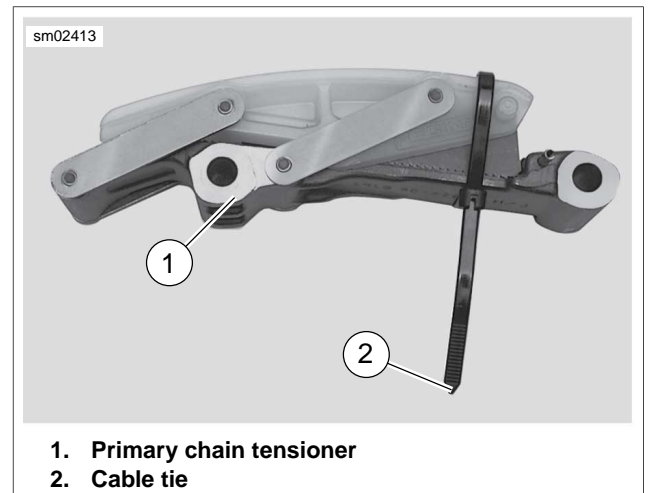
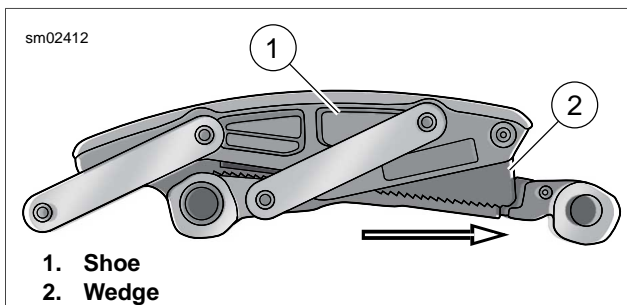

Figure 6-17. Securing Primary Chain Tensioner
Figure 6-16. Primary Chain Tensioner
12. See Figure 6-16. Slide wedge (2) of primary chain tensioner in direction of arrow until all travel is removed.
13. Push shoe (1) down until it contacts wedge. Keep tension on shoe so wedge stays in place.
14. See Figure 6-17. Insert cable tie (2) as shown to hold wedge in place. Make sure end of cable tie is located below primary chain tensioner. If cable tie is installed this way, it will hang below primary cover gasket surface and serve as a reminder to remove cable tie before installing primary cover.